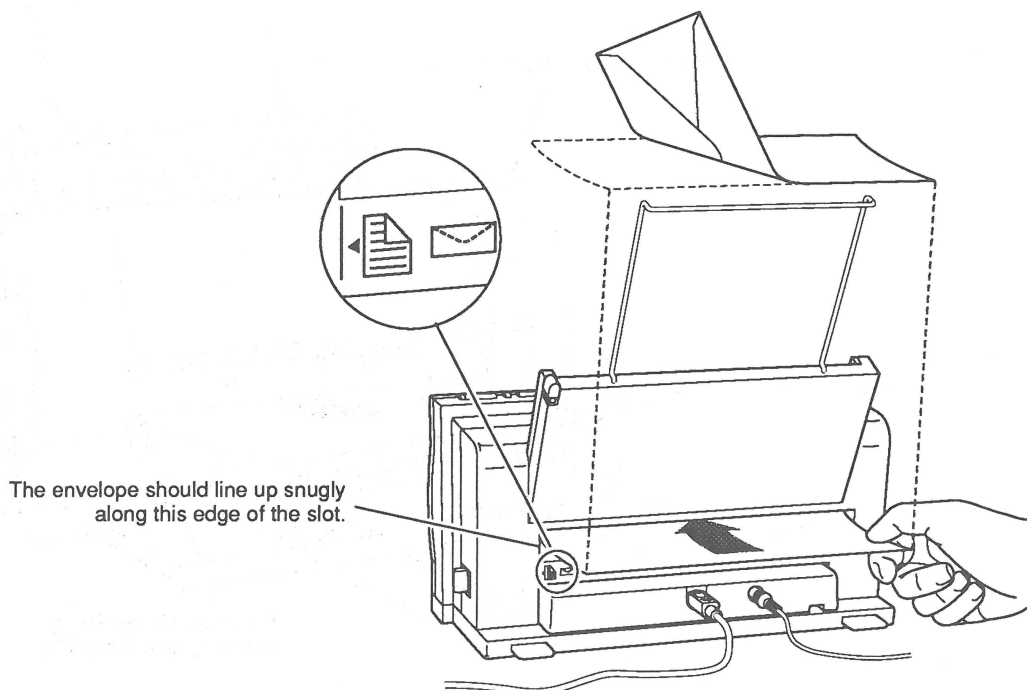

Figure 1-11 Manual Feed (Rear Slot)
5. Insert the envelope, sheet of labels, heavy sheet, or transparency as far as it will go into the rear slot of the cut sheet feeder (**Figure 1-11**). Insert envelopes top first, address side up. Insert sheets of labels, transparencies, or paper top first and face up. When the material is inserted far enough, the printer grasps the material and draws it in.